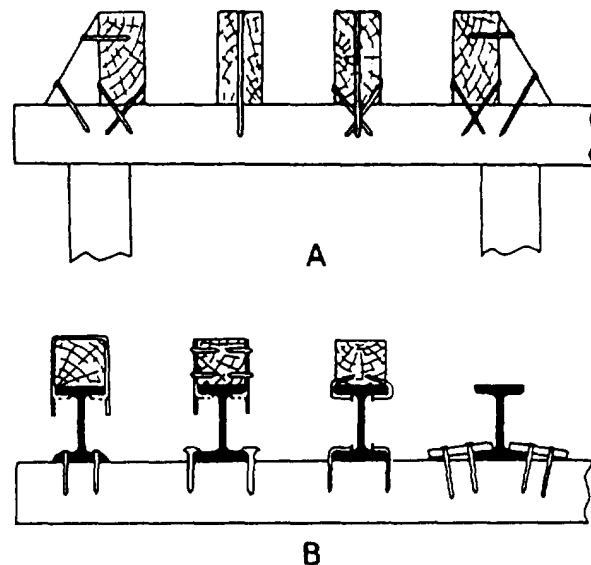

Figure 10-6.-Methods of fastening timber stringers and steel girders to timber caps.
Timber girders are usually 10 by 16s, 14 feet long, spaced 3 feet 3 1/2 inches on center (OC). Various methods of fastening **timber stringers** to timber caps are shown in figure 10-6, view A. Various methods of fastening **steel girders** to timber caps are shown in view B. This view also shows three ways of fastening a